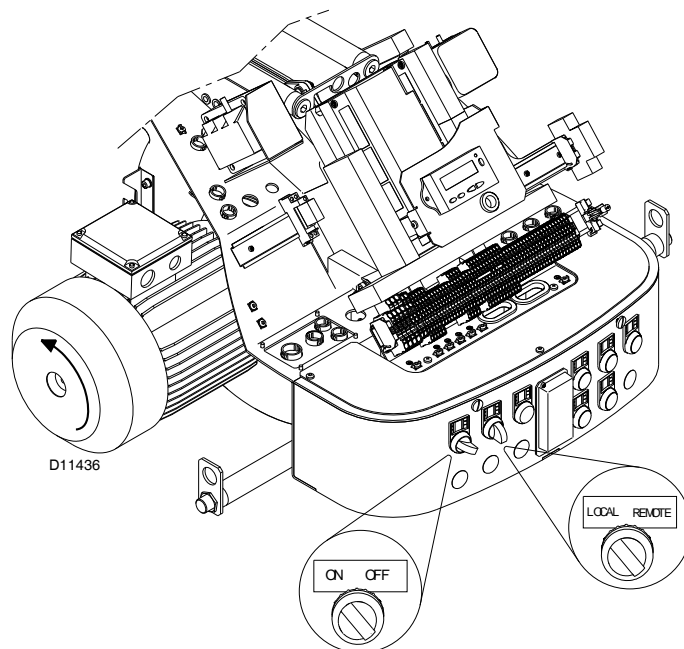

Fig. 36
Please refer to the specific manual for this operation. Turn the switch of Fig. 36 to position “ON” and turn the switch of Fig. 36 to position “LOCAL”.
Make sure that the lamps or testers connected to the solenoids, or indicator lights on the solenoids themselves, show that no voltage is present. If voltage is present, stop the burner **immediately** and check the electrical wiring. When the burner starts, check the direction of the motor rotation, as indicated in Fig. 36.
- place the switch of Fig. 36 in position “OFF” and wait for the control box to carry out the switch-off phase;